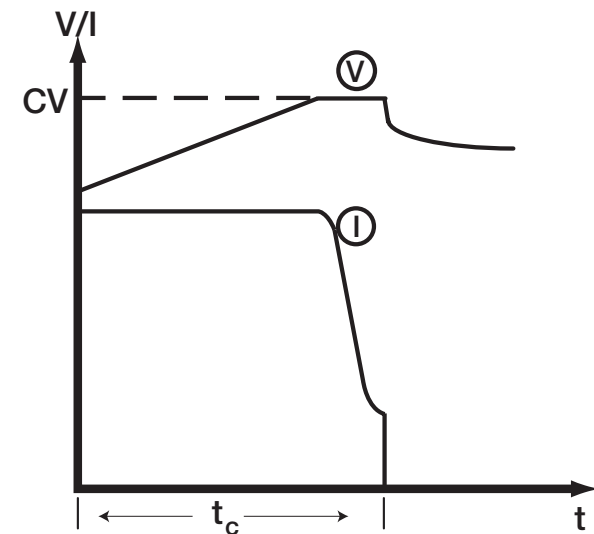

Figure 1. End of Charge Profile
**Constant Voltage** (CV, see figures 1, 2, 3 and 4)